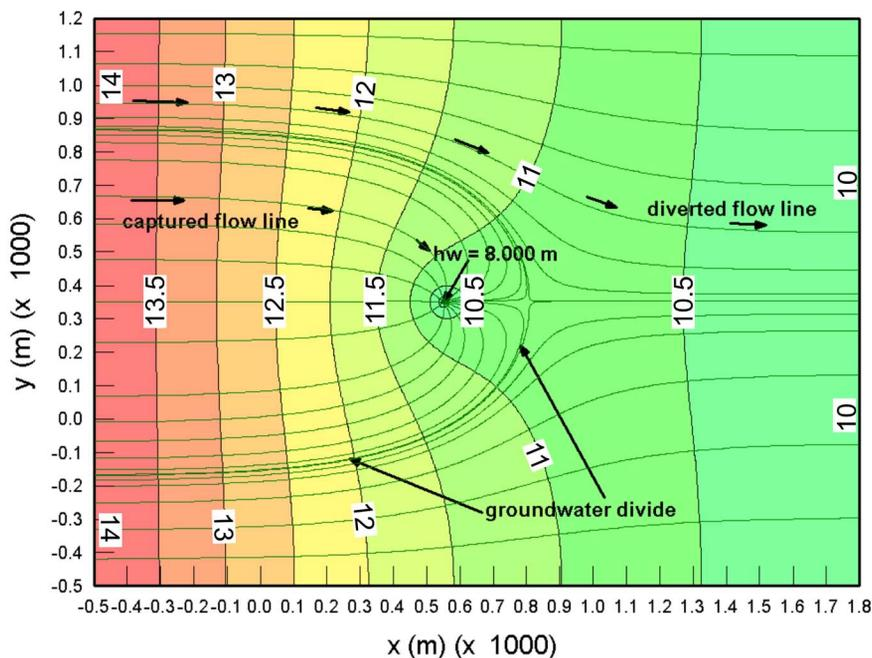

Figure 1. Example flownet for the ideal confined aquifer, steady-state pumping (equipotentials in metres).
We study the steady-state pumping problem in a rectangular ideal confined aquifer (Figure 1). The aquifer abscissa  $x$  varies from -500 m to +1800 m. The aquifer ordinate  $y$  varies from -500 m to +1200 m. The aquifer transmissivity ( $T = Kb = 4 \times 10^{-4} \text{ m}^2/\text{s}$ ) and thickness  $b$  are constant. The pumping well is located at  $x = 550 \text{ m}$ ,  $y = 350 \text{ m}$ . The boundary conditions (BC) for all grids are as follows: impervious boundary (or flow line) along the lateral boundaries  $y = -500 \text{ m}$  and  $y = +1200 \text{ m}$ ; constant hydraulic head  $h = 14.00 \text{ m}$  along the upgradient boundary  $x = -500 \text{ m}$ ; constant hydraulic head  $h = 10.00 \text{ m}$
along the downgradient boundary  $x = +1800$  m. Thus, before pumping the regional gradient is constant at  $1.7391 \times 10^{-3}$  (4 m / 2300 m) in the ideal aquifer. A flownet with the pumping well is shown in Figure 1 for one of the seven grids that have been considered for this paper. At the pumping well, the boundary condition (BC) is either a constant head  $h_w$  of 8.00 m (corresponding to a drawdown of 4.174 m) or a constant flow rate  $Q_w$  of  $87 \text{ m}^3/\text{d}$ . These two BC conditions are our “observations” at the pumping well. Using several grids we have found what is the computed flowrate when  $h_w = 8$  m is used as the BC condition, and what is the  $h_w$  value